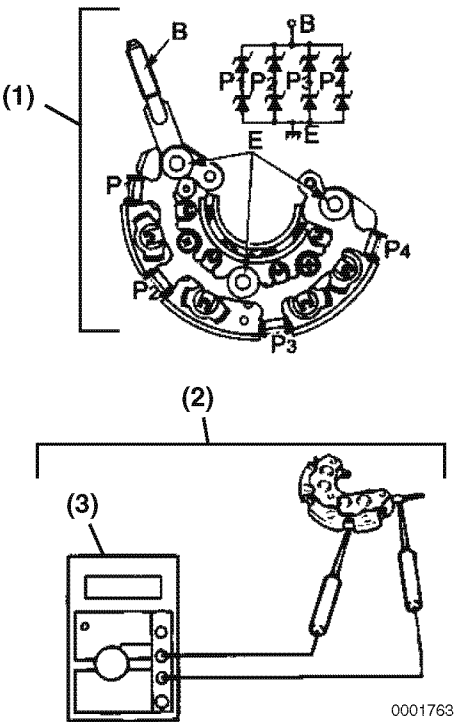

Figure 11-16
Check for continuity using a multimeter set in the K range (Figure 11-16, (3)).